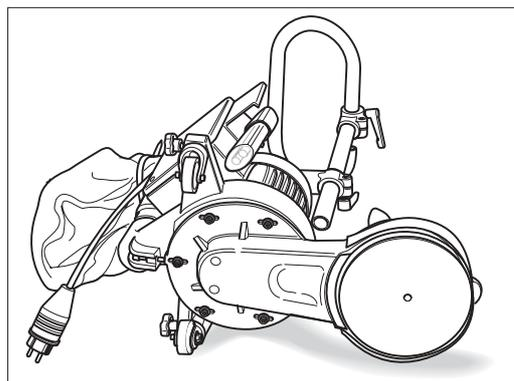

Fig. 77: Place the UNICO down on the **left-hand** side only.
**Always** set the UNICO down on the **left-hand** side (Fig. 77)! This will prevent damage to the floor.